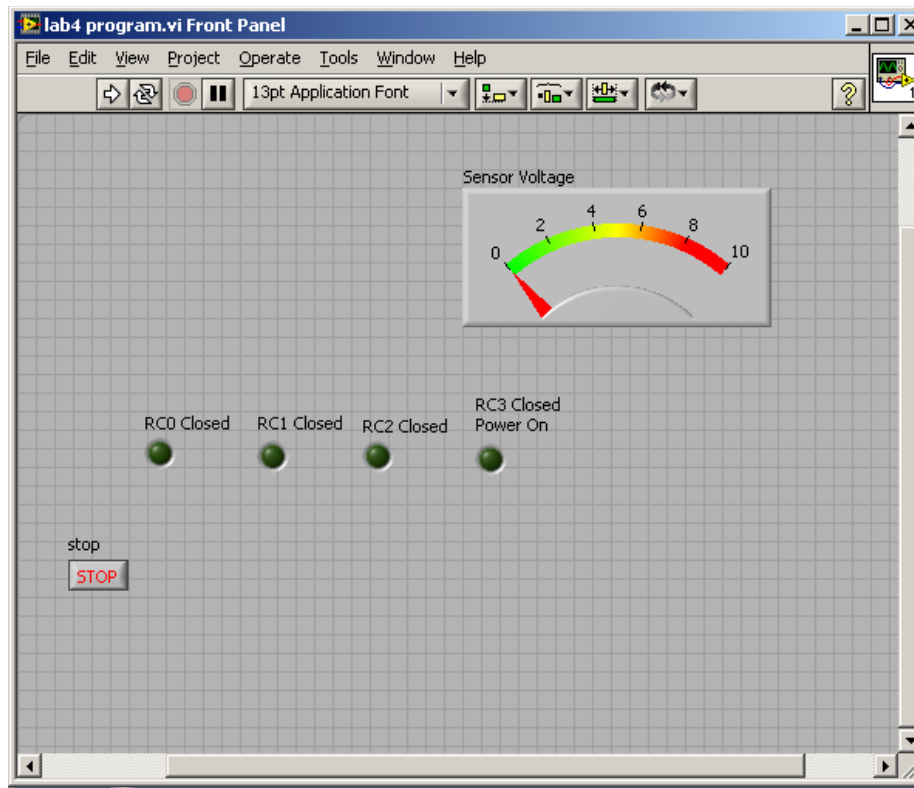

Figure 12. Desired Program Front Panel.
- 11.) Develop a LabVIEW program that will control the LED array based on the room light levels. Figure 12 shows the desired program interface. A meter display should show the sensor analog voltage. The panel indicator lamps show the condition of the control relays RC0-RC3. A stop button stops program operation. A flow chart in the